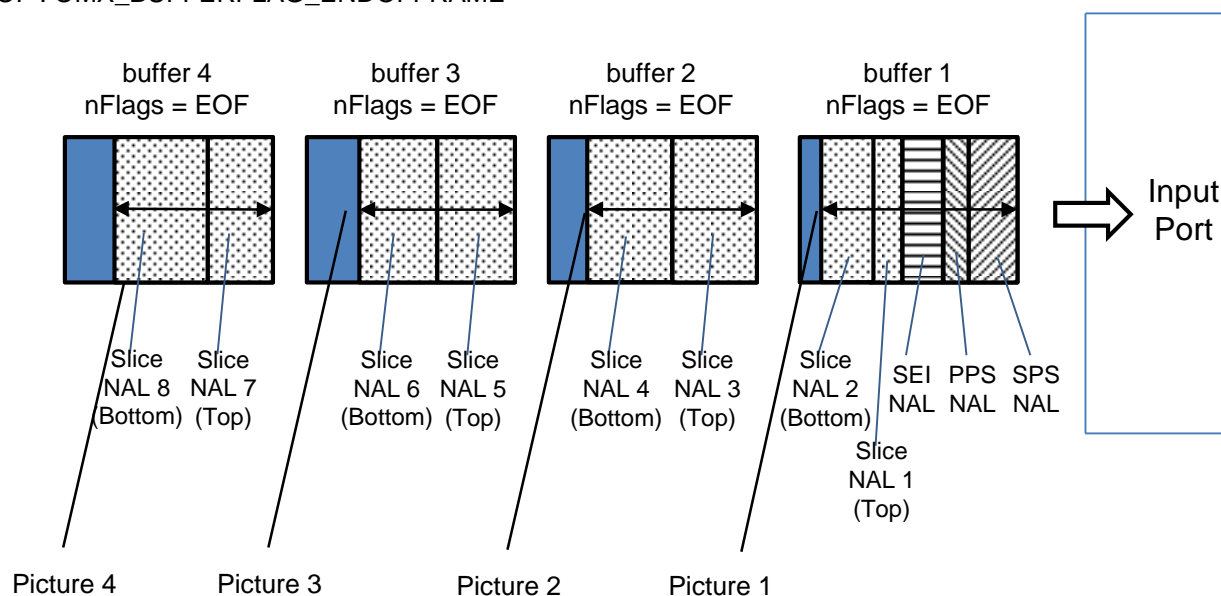

Figure 3-3 Example of Input Buffer Sequence - A Pair of Interlaced Fields
- A pair of interlaced fields (see Figure 3-3)